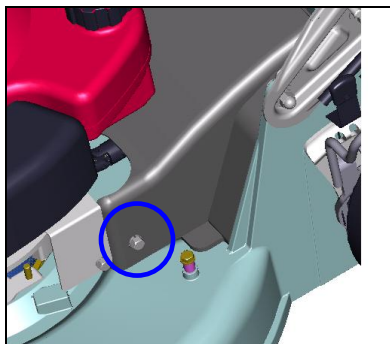
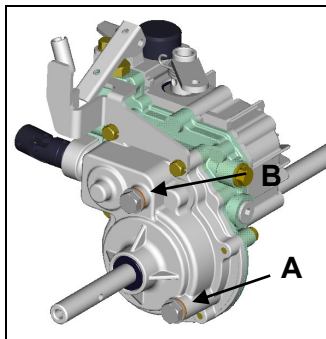

Fig. 19
Fig. 20
1. Prepare the oil container. Remove the bolt and detach the transmission cover(fig. 19).
2. First, replace the mechanical transmission oil. Remove a Drain Plug(A, fig. 20), and uprear the body and drain the oil. Set the drain plug completely and pour the mechanical transmission oil "SAE90" or "API GL-5" 0.17 liters from oiling mouth(B, fig. 19). Then tighten the bolt.